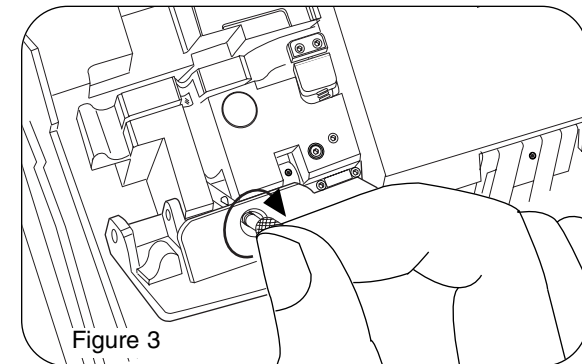

Figure 3
4. Turn the reservoir cap on the mandrel until a drop of LID fluid escapes through the small slit (Figure 3). One drop of LID fluid should last for hundreds of splices.